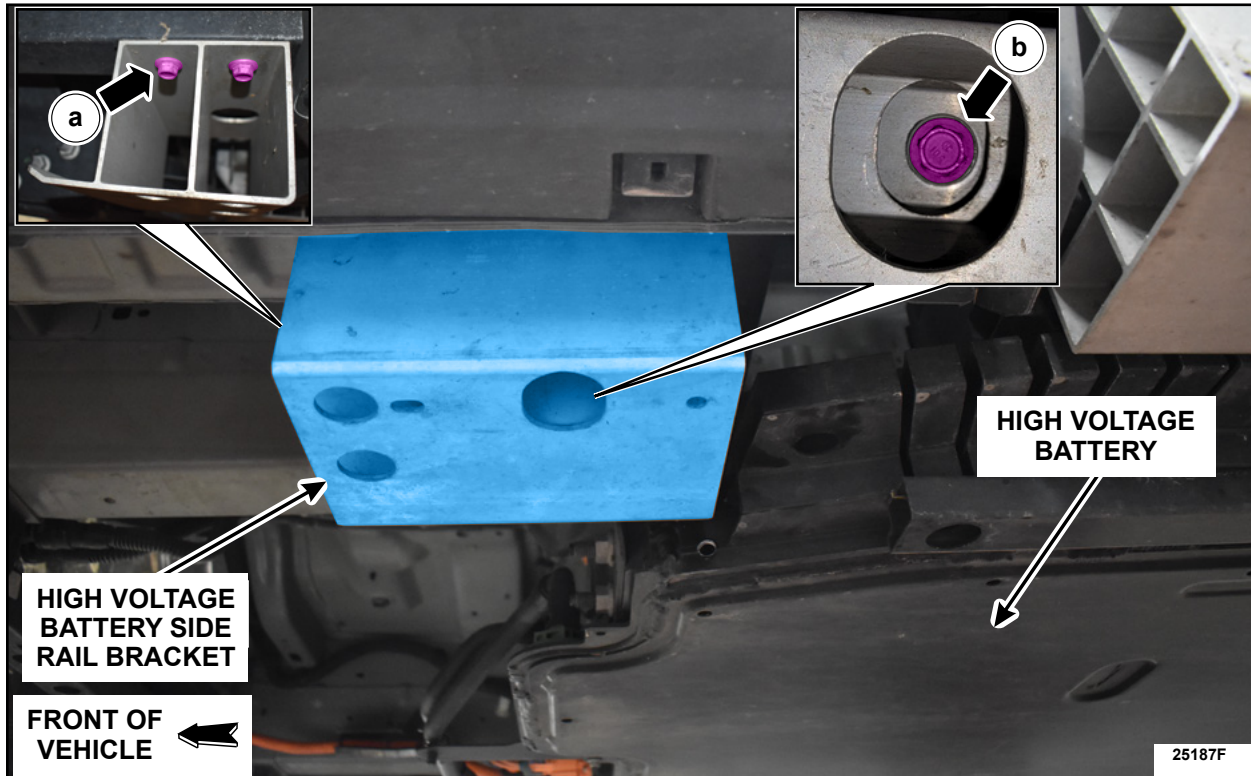

FIGURE 14
1. On both sides of the vehicle, remove the front high voltage battery side rail bracket. See Figure 14.